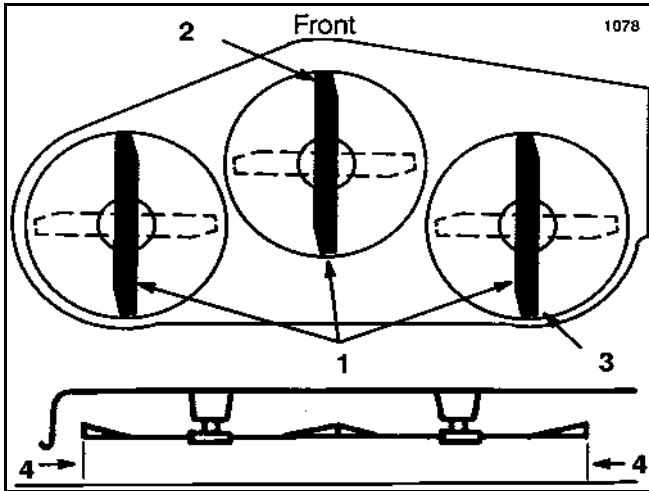

Figure 46 XL44pit2.TIF
- Measure from the front blade tip to the ground, mark that tip with tape for future reference and rotate it 180 degrees to the rear and measure from the tip to the ground. If the tip in the front is not 0-5/16 inch (0-8mm) lower than in the rear, adjustment is necessary (Figure 46).